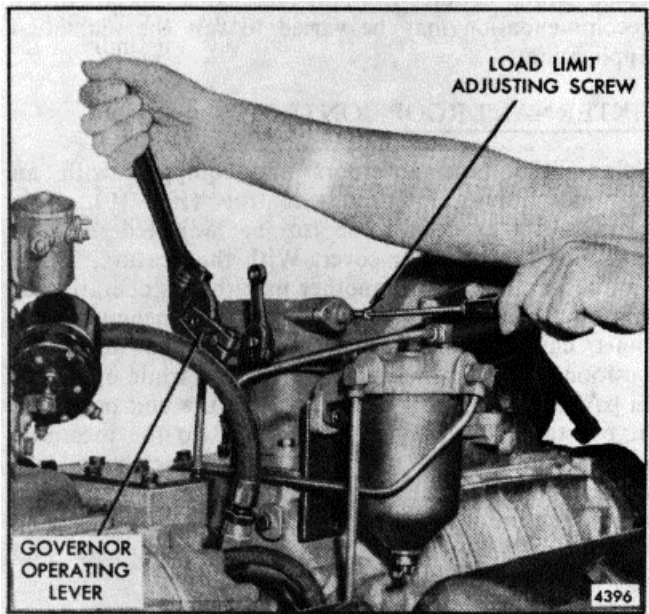

Fig. 17. - Adjusting Load Limit Screw
1. With the governor cover off and the load limit screw locknut loosened, place and retain the governor operating lever in the full-fuel position (Fig. 17).
5. Loosen the droop adjusting knob and move the slider all the way in toward the center of the governor (Fig. 17). Then, tighten the knob.